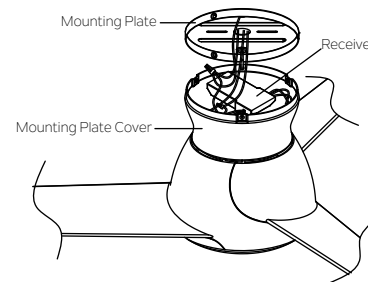

Fig. 14
Secure the wire connections with the plastic wire connectors provided .(Fig. 14)
Step 3. Insert the receiver into the mounting plate cover, and keep flat in opposition of ceiling. (Fig. 14)
Step 4. If your outlet box has a ground wire (green or bare copper) connect it to the fan ground wires : otherwise connect the fan ground wire to the mounting bracket. Secure the wire connection with a plastic nut provided. After connecting the wires, spread them apart so that the green and white wires are on one side of the outlet box and black and blue wires are on the other side. (Fig. 14)